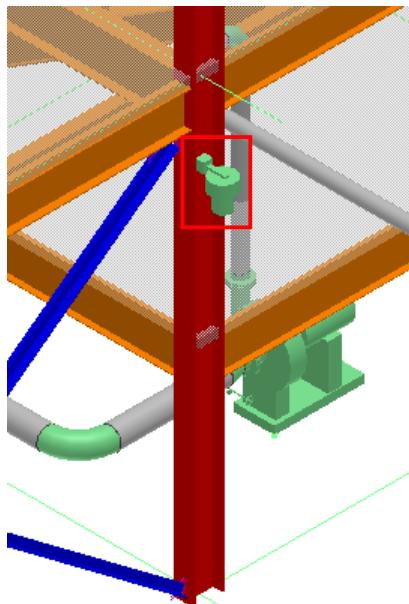

Figure 17: Electrical Light **EL-U03-1**
11. Click **OK** to place the electrical light **EL-U03-1**. The output should now resemble Figure 17.